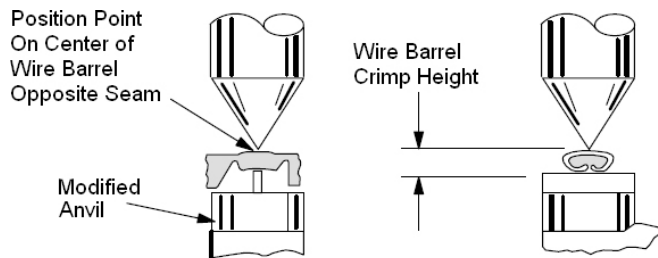

Figure 5
This inspection requires the use of micrometer with a modified anvil as shown in Figure 5.
3. Using a crimp height comparator, measure wire barrel crimp as shown in Figure 5. If the crimp height conforms to applicable specifications, the tool is considered dimensionally correct.